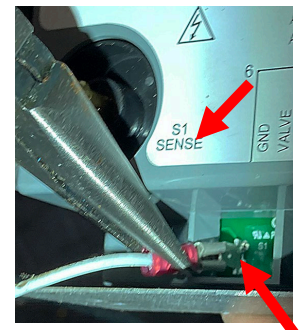
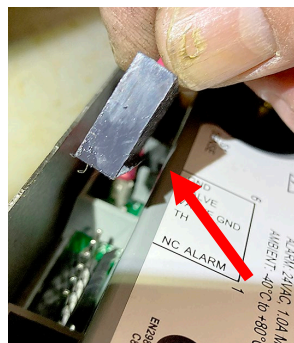

Figure 61
Figure 62
63. Attach the white sense wire to the S1 Sense location on the modules first (see Figure 61). The black connector attaches with the groove towards the module (see Figure 62).